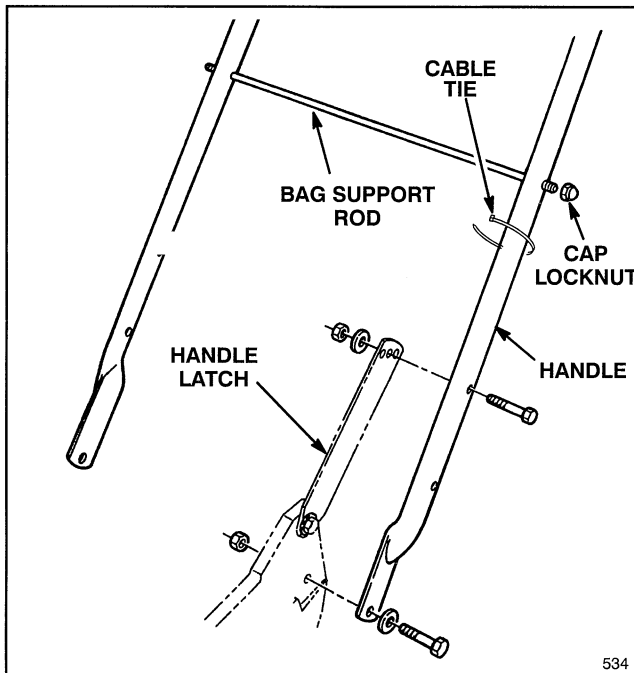

Figure 1
## INSTALL HANDLE (Fig. 1)
2. Secure handle latches to handle with (2) 5/16–18 x 1–1/2" lg. capscrews, washers and nylon insert locknuts. Position locknuts and washers on inside of handle.
3. Slide bag support rod thru **top** mounting holes in handle and secure each end with a cap locknut (Fig. 1).